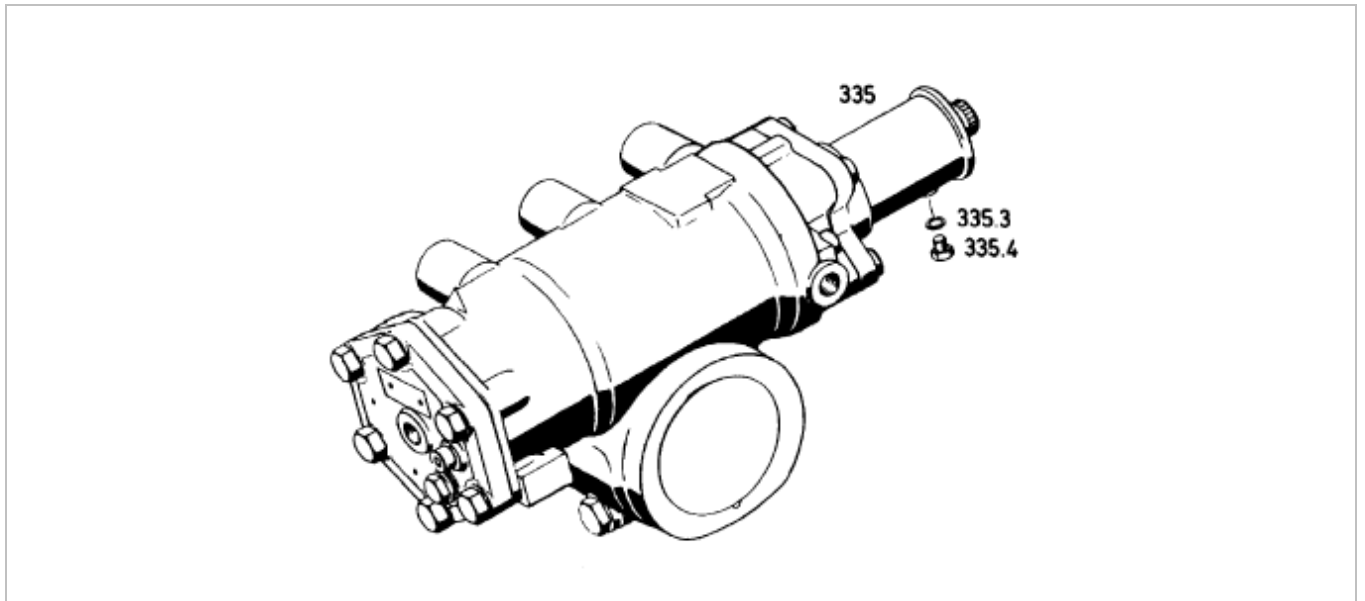

Fig. 8: Steering gear with flange
1. Open the screw plug (335.4) until nothing but oil is coming out (Fig. 8).